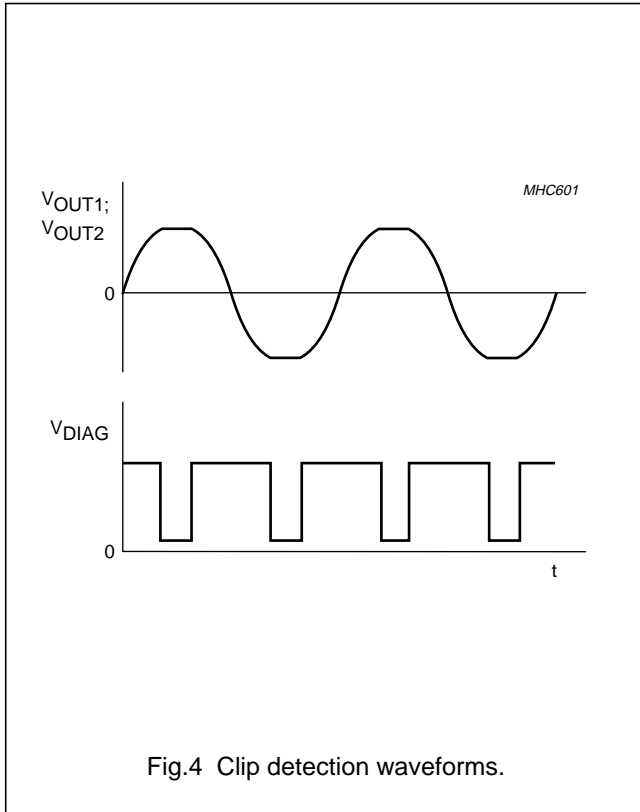

Fig.4 Clip detection waveforms.
- Clip detection at 2.5 % THD (see Fig.4)